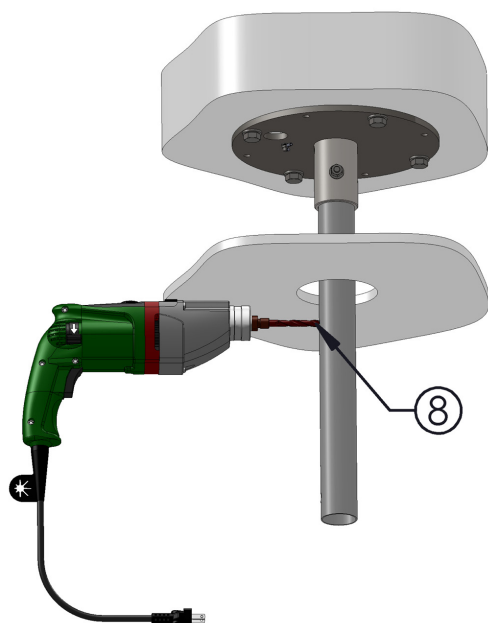

Fig. 8.0
8. Drill cable access hole in the ceiling tube at the sub-ceiling level, as shown in Fig. 8.0. Take care to remove power cords from the drilling area, before drilling.